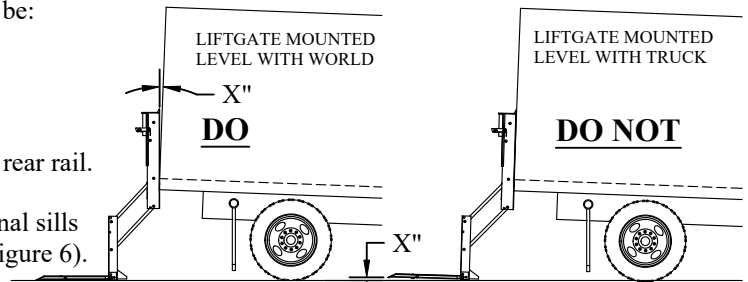

Figure 5: Liftgate level to the world.
- 1. Position** the Tommy Lift into the opening (Figure 5). It should be:
- 5. Level** the liftgate to the world, not to the truck (Figure 5).
- 1. Position** the liftgate level with the world (Figure 5).
1. **Position** the liftgate level with the world (Figure 5).